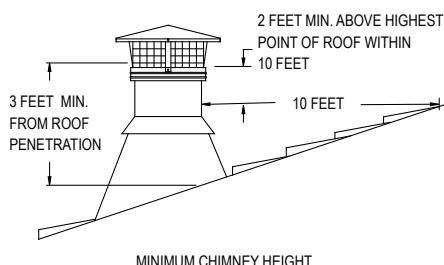
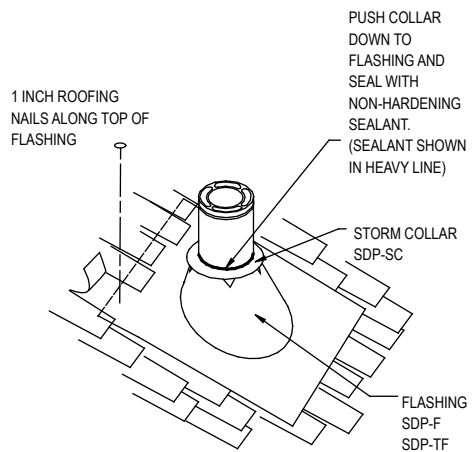
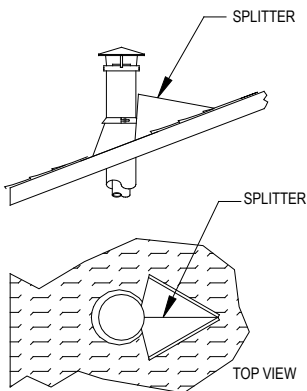

Figure 1
Figure 14
Figure 16
The National Fire Protection Association Standard #211 states: "Chimneys shall extend at least three feet above the highest point where it passes through the roof of a building, and at least two feet higher than any portion of a building within ten feet." (**Figure 1**).
9. Attach Flashing: In new construction, assemble the Chimney Sections to a point above the roof, then slip the Flashing over the chimney. On an existing roof, center and install the Flashing before extending the chimney above the roof. Allow space to permit sliding the next Chimney Section up through the Flashing. Always insure the chimney remains vertical, and that at least a 2-inch clearance to combustible materials is maintained all around. Install the upper edge of the Flashing under the roofing. Nail to the roof along the upper edge and the upper half on each side with 1-inch roofing nails. Do not nail the lower edge of the Flashing, or the lower half of the sides. (**Figure 14**). Seal all nail heads with a non-hardening waterproof sealant. On flat or tarred and graveled roofs, nail and seal the Flat Roof Flashing to the roof on all sides with roofing compound. Do not put screws through the Flashing into the Chimney Pipe.
chimney above the Flashing, and also along the vertical seam of the chimney pipe, which is exposed to the weather. **(Figures 14 and 15).** Slide the Storm Collar down over the chimney to the top of the Flashing. Tighten and seal the Storm Collar against the sealant. After installing sufficient Chimney Sections to meet the height requirement, **(Figure 1)**, snap the Chimney Cap onto the top of the chimney. The Chimney Cap can be removed for chimney cleaning as described in the Chimney Maintenance section of the instructions. Use an Extended Roof Bracket if the chimney extends more than 4 feet above the roof. **(Figures 18, and 19)** in the Extended Roof Bracket section. If you are located in heavy snow country, a "splitter" should be fabricated from heavy gauge sheet metal, and installed. **(Figure 16).** This will route the snow around the chimney, and protect it. This item is not furnished by Simpson Dura-Vent.